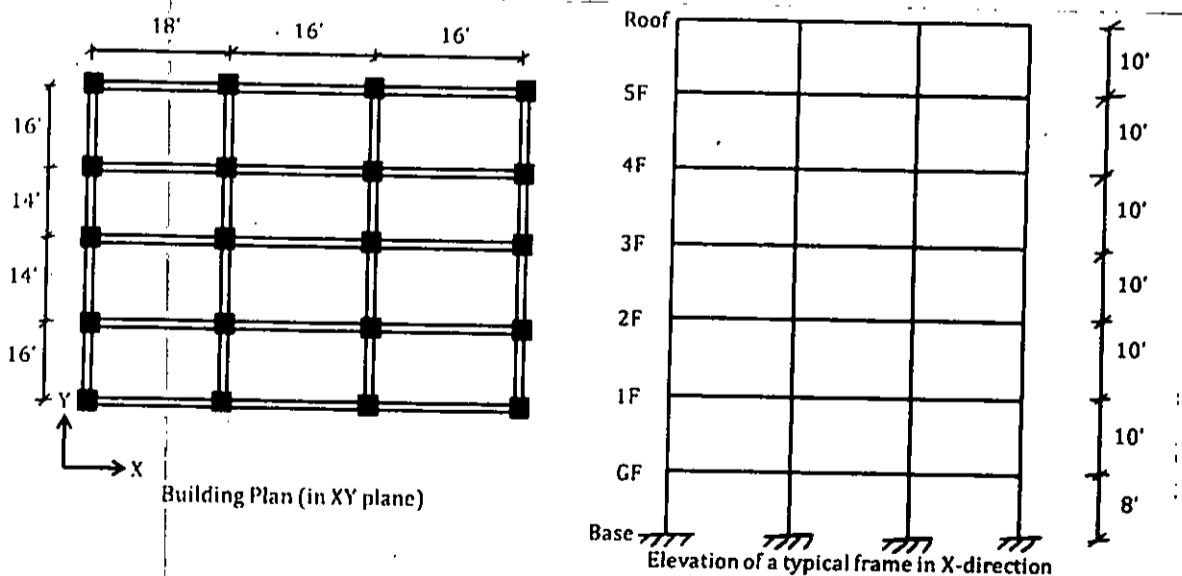

Figure 1.
Figure 1 for question3(a)
1. A 6-storied RC residential building (occupancy category II) located in Sylhet (site class: SC) is shown in Figure 1. The structure is a special reinforced concrete moment frame. The building has a plan dimension of 50 feet × 60 feet and the typical floor-to-floor height of the building is 10 feet. The height from the column pedestals to the ground floor is 8 feet. Determine the floor-wise load distribution and the story shear distribution along the height of the building following the equivalent static force method as per BNBC 2020.